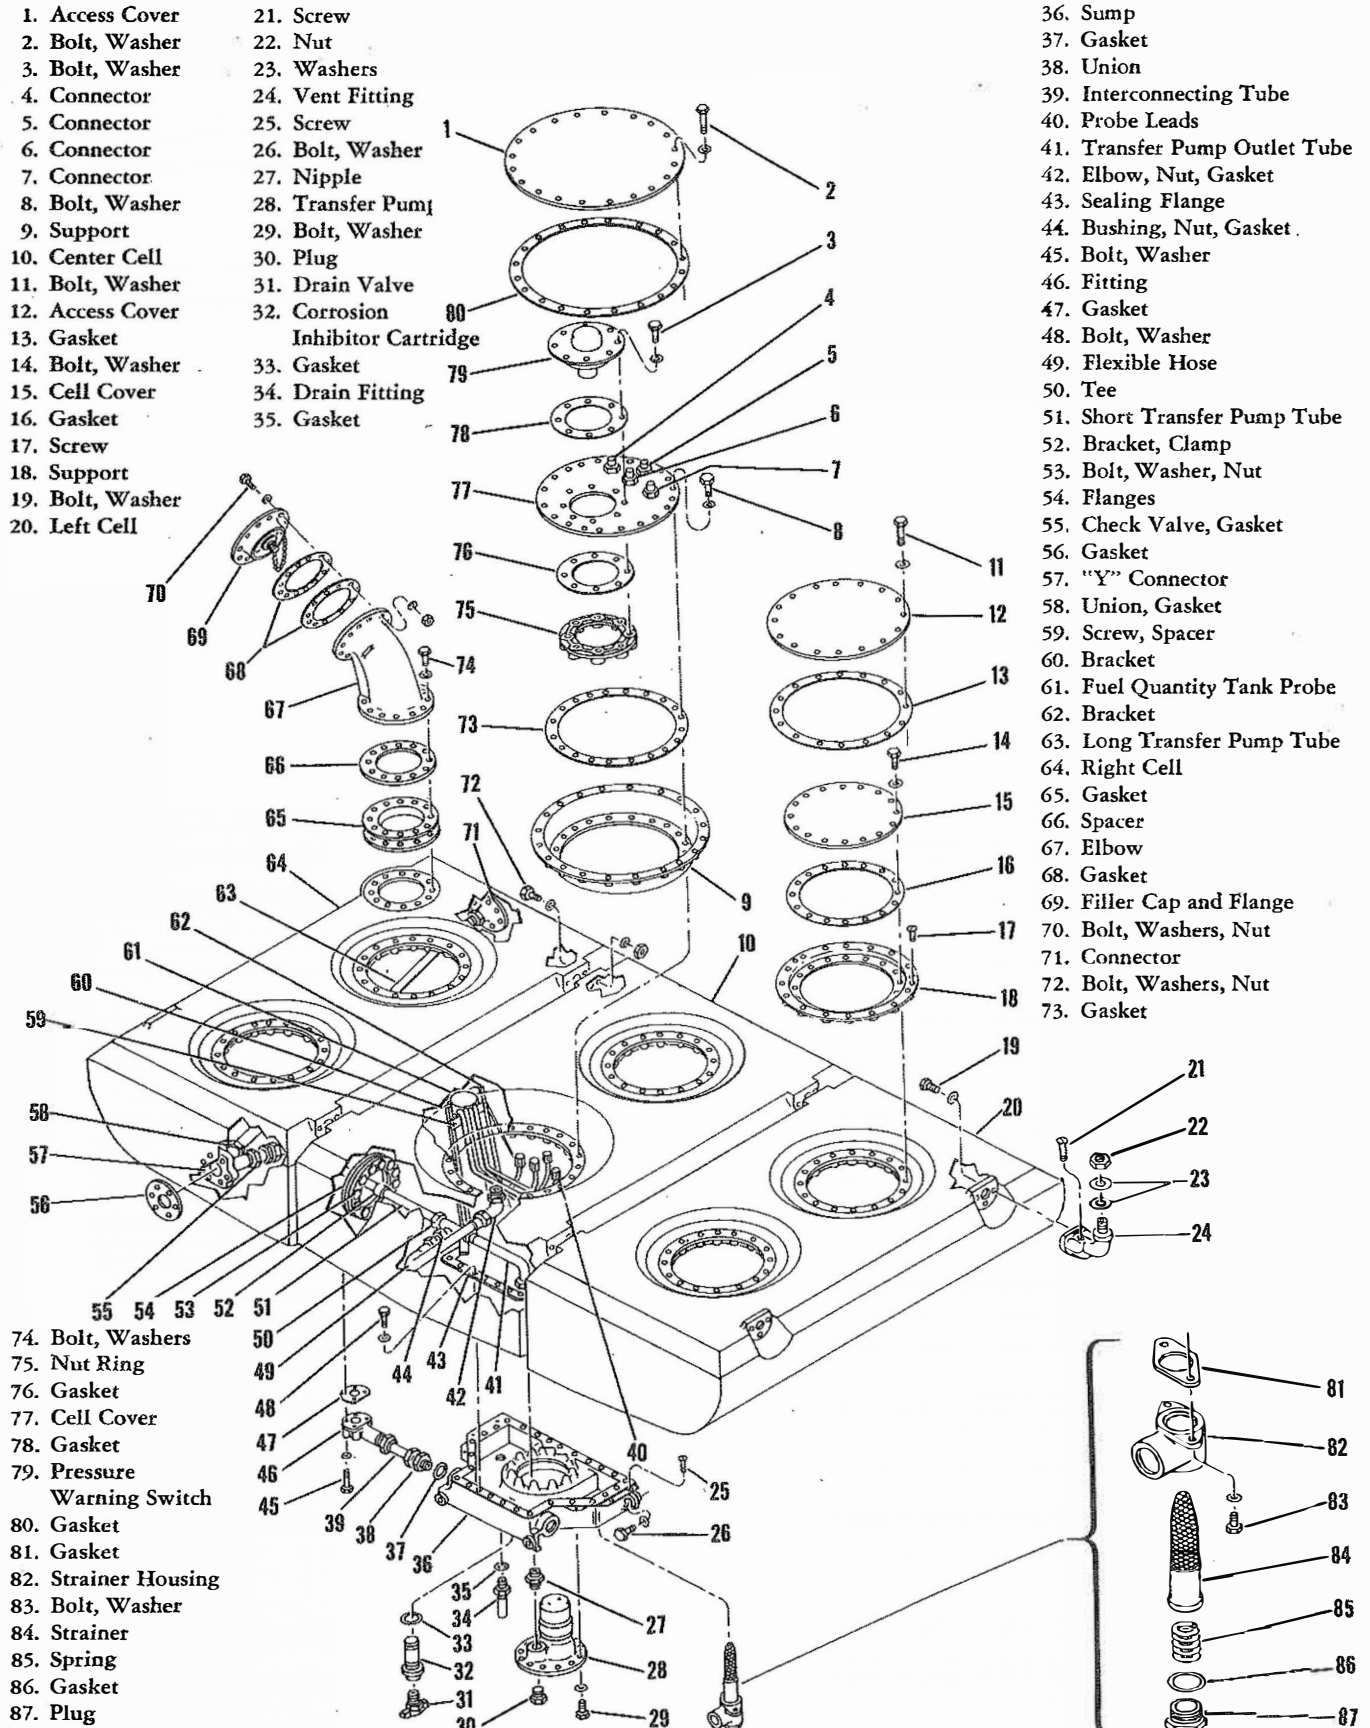

Figure 5-19. Center Fuel Tank
- c. Remove the bolts and washers (11, figure 5-19) that secure each access cover (12) to the cabin floor. Remove each cover and gasket (13).
- d. Cut the lock wire and remove the bolts and washers (14) that secure each cell cover (15) to the support (18). Remove each cover and gasket (16).
- e. Remove the screw, washers and nut from the clamp (52) around the short transfer pump tube (51) at the interconnecting hole in the right cell (64).
- f. Disconnect the short transfer pump tube (51) from the check valve (55) at the front of the right cell (64) and from the tee (50) in the center cell (10). Remove the tube.
- g. Disconnect the flexible hose (49) from the bushing in the tee (50) in the center cell (10). Remove the hose. Disconnect the tube (41) from the transfer pump (28). Remove the tube and tee.
i. Disconnect the long transfer pump tube (63, figure 5-19) from the union (58) and connector (71) at each end of the right cell (64).
l. Cut the lock wire and remove the bolts and washers (13, sheet 2) from the aft end of the transfer connector (12) in the bottom structure cavity just forward of the right cell (64, figure 5-19). Remove the "Y" connector (57) and check valve (55) from inside the right cell. Remove the check valve, union (58) and gaskets (55 and 58) from the connector.
n. Remove the bolts, washers and nuts (61, figure 5-20) that secure the connector (71, figure 5-19) to the aft wall of the right cell (64). Remove the connector.
o. Cut the lock wire and remove the bolts and washers (19) from the single overboard vent fitting (24) in the right cell (64) and the two overboard vent fittings in the left cell (20).
d. Lay the cell cover supports (9 and 18, figure 5-19) on top of each cell.
e. Insert the long transfer pump tube (63) into the right cell (64).
g. Secure a cell cover support (9 and 18) to the lower surface of the floor panel at each cell access hole with the screws (17).
h. Check to see that the gasket (65) and spacer (66) are correctly positioned at the filler hole in the floor panel. Position the elbow (67) over the hole and secure it to the floor panel with the bolts and washers (74). Tighten the bolts with 25 to 30 inch-pounds torque. Lockwire the bolts.
i. Position the filler cap (69) against the outer surface of the scupper. Install a gasket (65) against each surface of the scupper. Secure the filler cap and elbow (67) to the scupper with the bolts, washers and nuts (76).
j. Install the bolts, washers and nuts (72) at the two interconnecting vent fittings between each cell.
k. Install the flanges (54) at the interconnecting hole in each cell and secure them with the bolts, washers and nuts (53). Use the first two nuts below the center
n. Install the check valve (55, figure 5-19) union and gaskets (58) in the transfer pump tube "Y" connector (57). Position the "Y" connector (57) at the forward wall of the right cell (64). Secure the connector by installing the bolts and washers (13, sheet 2, figure 5-18) in the aft end of the transfer connector (12) in the bottom structure cavity just forward of the right cell (64, figure 5-19). Lockwire the bolts.
s. Install the bushing, nut and gasket (44, figure 5-19) in the tee (50). Install the tee in the transfer pump tube (41). Connect the tube to the transfer pump (28). Connect the flexible hose (49) to the bushing (44) in the tee.
t. Connect the short transfer pump outlet tube (51) to the tee (50) in the center cell (10) and to the check valve (55) in the right cell (64). Install the clamp (52)
w. Secure the supports (9 and 18, figure 5-19) to the floor panel with the screws (17). Install the access covers (16 and 26, sheet 1, figure 5-18) over the aft cells (7 and 28, sheet 2) of the forward tank.
y. Install the cell covers (15, figure 5-19) and gaskets (16) and the access covers (12) and gaskets (13). Secure them with the bolts and washers (11). Lockwire the bolts (14) that secure the cell covers. As an aid in positioning the nut ring (75) below the cell cover, use a drill rod as described in paragraph 5-63, step z.